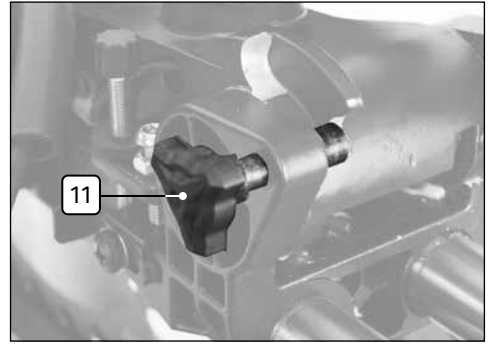

Fig. 6
6.7 Saw Head Locking Pin – Fig.6